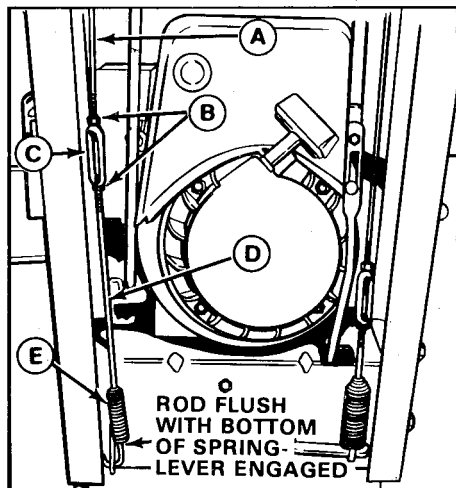

Figure 13. Drive Tension Adjustment
With the drive lever engaged, the bottom end of the lower rod (D, figure 13) should be flush with the bottom of the spring (E). To adjust, loosen the two nuts. Hold the lower rod to keep from turning and turn the turnbuckle toward the right to lower the rod or toward the left to raise the rod. Engage the drive lever to check the adjustment.